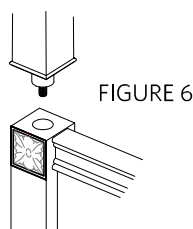

FIGURE 6
9. Install the FB posts (G) on top of the footboard (C) as per illustration in FIGURE 6.